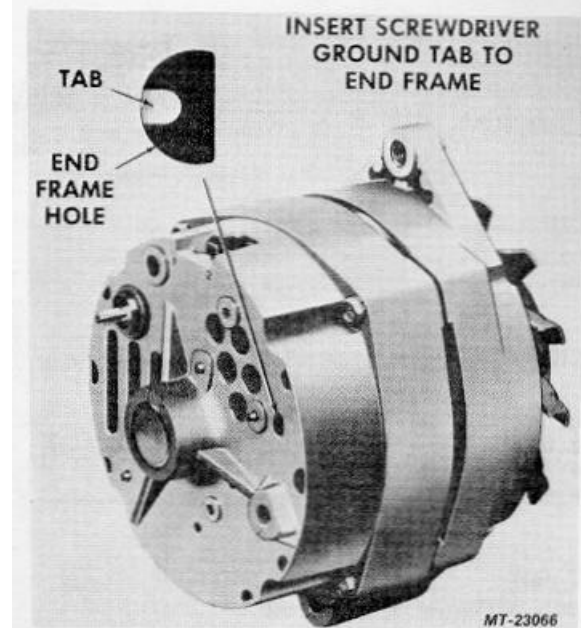

Fig. 4 End Frame Test Hole
- g. If ampere output is not within 10 amperes of rated output, determine if test hole (Figure 4) is accessible. If accessible, go to Step h. If not accessible go to Step 1.
- h. Ground the field winding by inserting a screwdriver into the test hole (Figure 4).